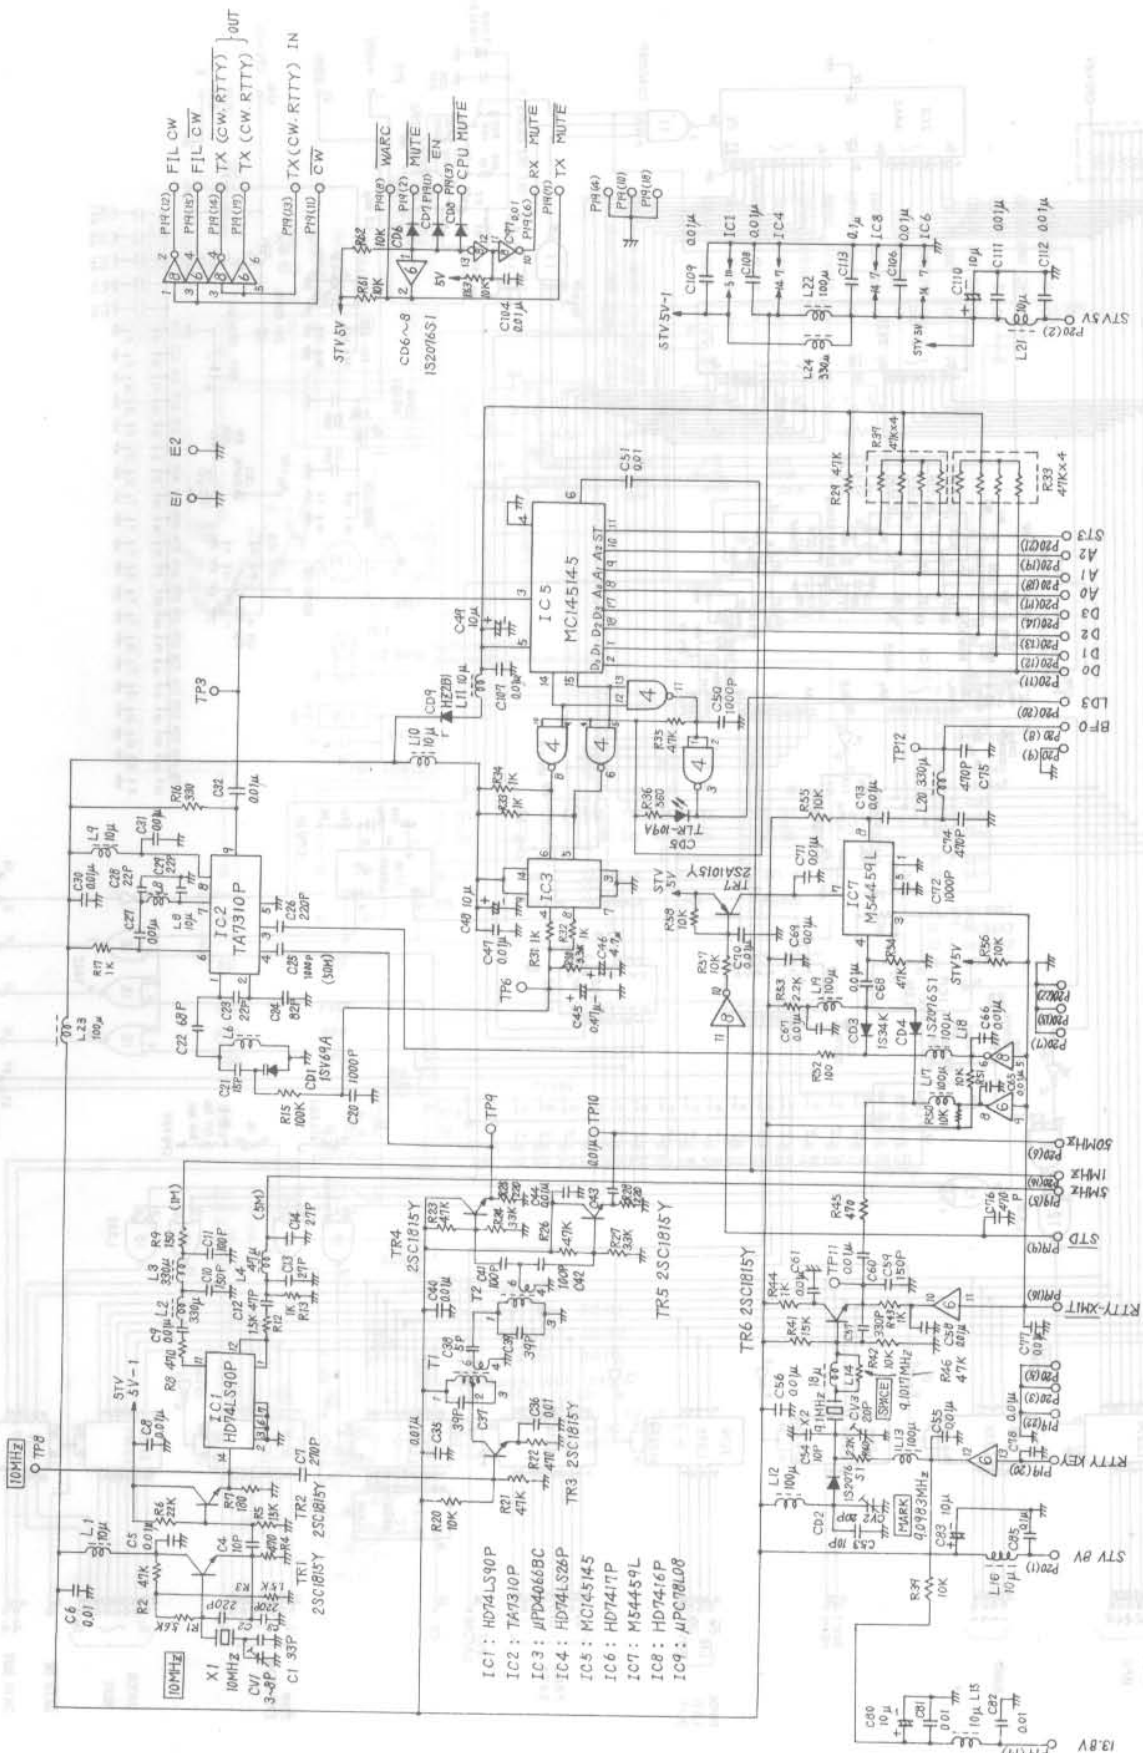

FIGURE 7.12 CGD-76 BFO UNIT CIRCUIT DIAGRAM
- FIGURE 7.12 CGD-76 BFO UNIT CIRCUIT DIAGRAM